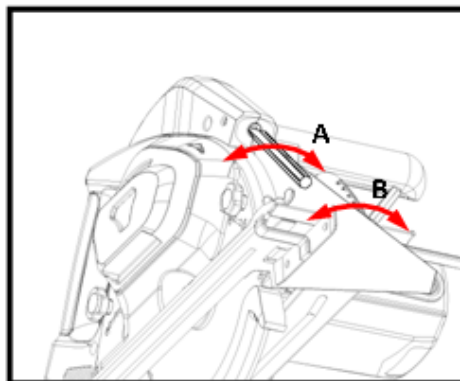

Fig.11
2. Use a small flat blade screw driver to align the laser beam with the actual cut line. Fig.11.